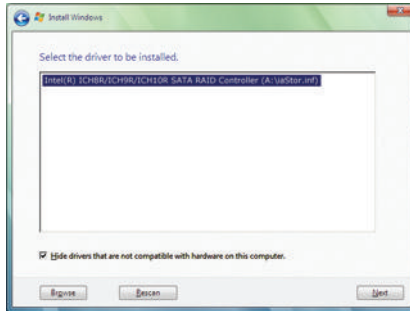

Figure 6
When a screen as shown in Figure 6 appears, select **Intel(R) ICH8R/ICH9R/ICH10R/DO SATA RAID Controller (A-1a82) (AHCI)** and click **Next**.